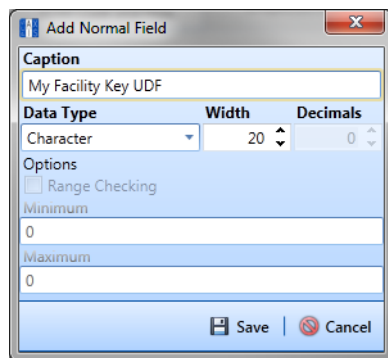

Figure 10-2. Add Normal Field
- 3 Click  **Normal** in the toolbar to open the *Add Normal Field* dialog box (Figure 10-2).